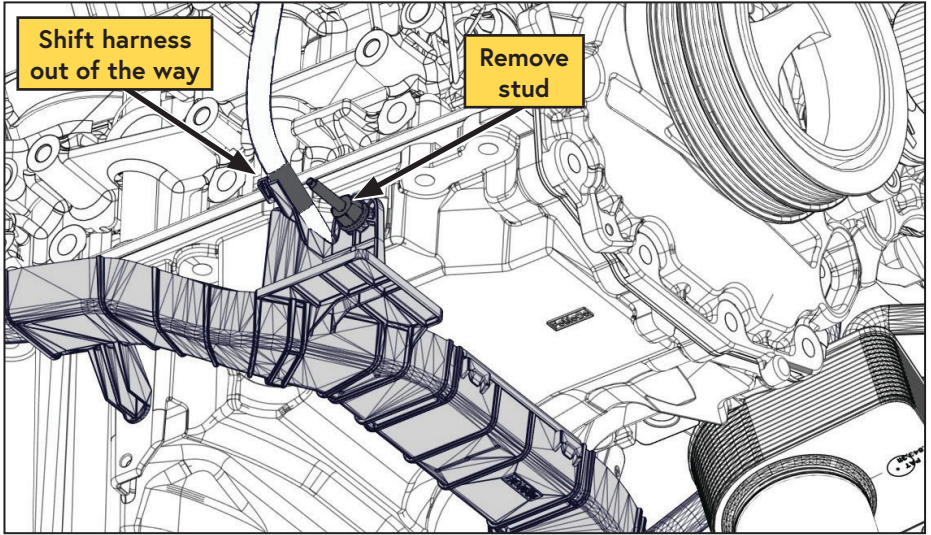

Figure 10 — Remove cable tray
- Remove and discard the stud securing the passenger side of the cable tray. Pull the tab off the mounting stud and push the wiring harness out of the way (Figure 10).